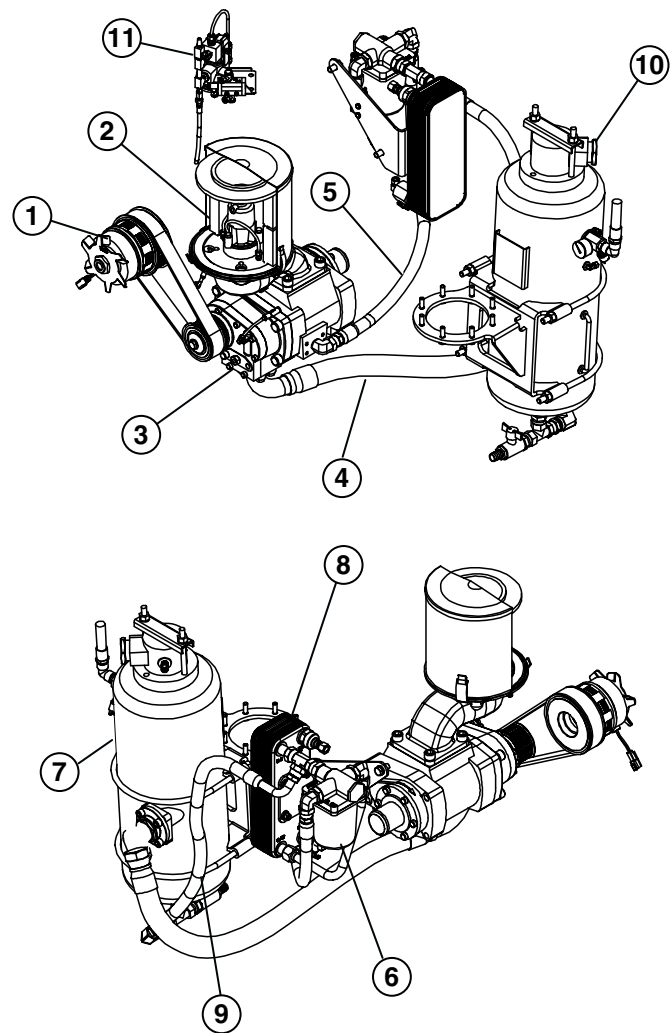

Figure 1
Referring to *Figure 1 on page 80* and *Figure 2 on page 81*, the compressor system operates as follows: Air is drawn in through the filtered inlet-modulating valve (2) that also functions as a non-return valve during shutdown. From the inlet valve, air enters the air end (3) where pressurization occurs. Cooling and lubricating oil is continuously injected into the rotor housing through the hydraulic supply line (5). The pressurized air/oil mixture discharged from the air end flows through a hydraulic hose (4) into the oil receiver/separator tank (7) where oil is removed from the pressurized air.